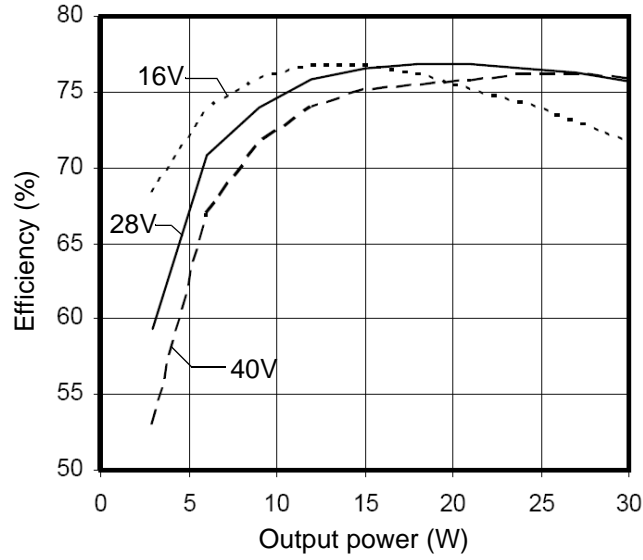
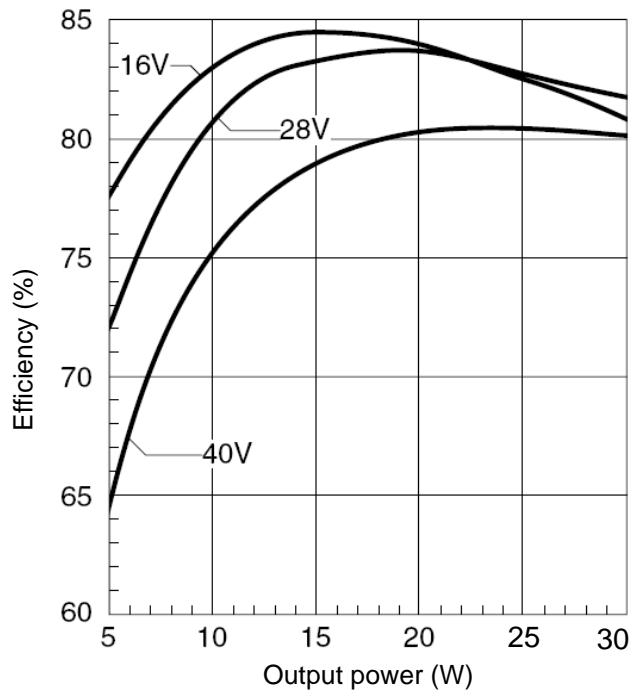

Figure 25-1: 5V DC/DC converter efficiency for the KAM/PSU/012 and KAM/PSU/012/B
Figure 25-2: 7V/12V DC/DC converter efficiency for the KAM/PSU/012 and KAM/PSU/012/B
3. Derived from the efficiency charts (Figure 25-1 and Figure 25-2)